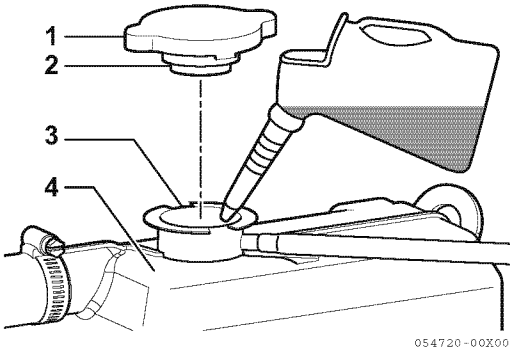

Figure 11
4. Pour coolant slowly into the coolant tank / heat exchanger (**Figure 11, (4)**) to avoid air bubbles. Fill until coolant overflows from the filler port.
5. Align the filler cap tabs (**Figure 11, (1)**) with filler port notches (**Figure 11, (3)**) and tighten the filler cap (**Figure 11, (2)**).